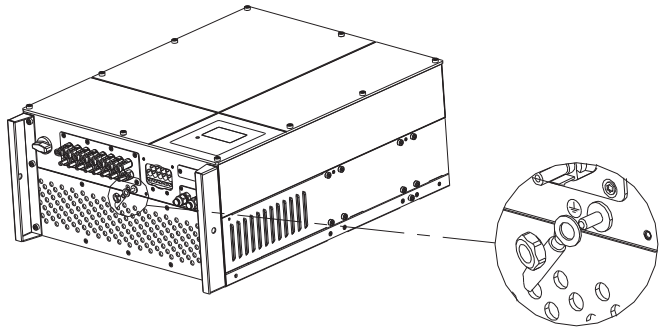

Fig 5.6
- Connection of a second protective conductor. Please reference in Fig5.6.